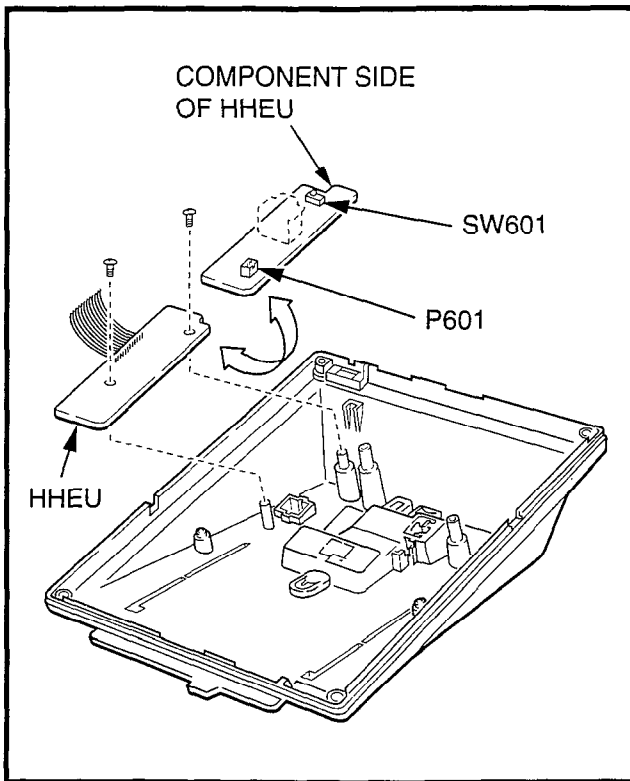

FIGURE 4-32—INSTALLATION OF HHEU UPGRADE OPTION
5.44 Set **HEADSET/EXT IO** switch **SW601** on the HHEU PCB (Figure 4-32) to the **HEADSET** position.